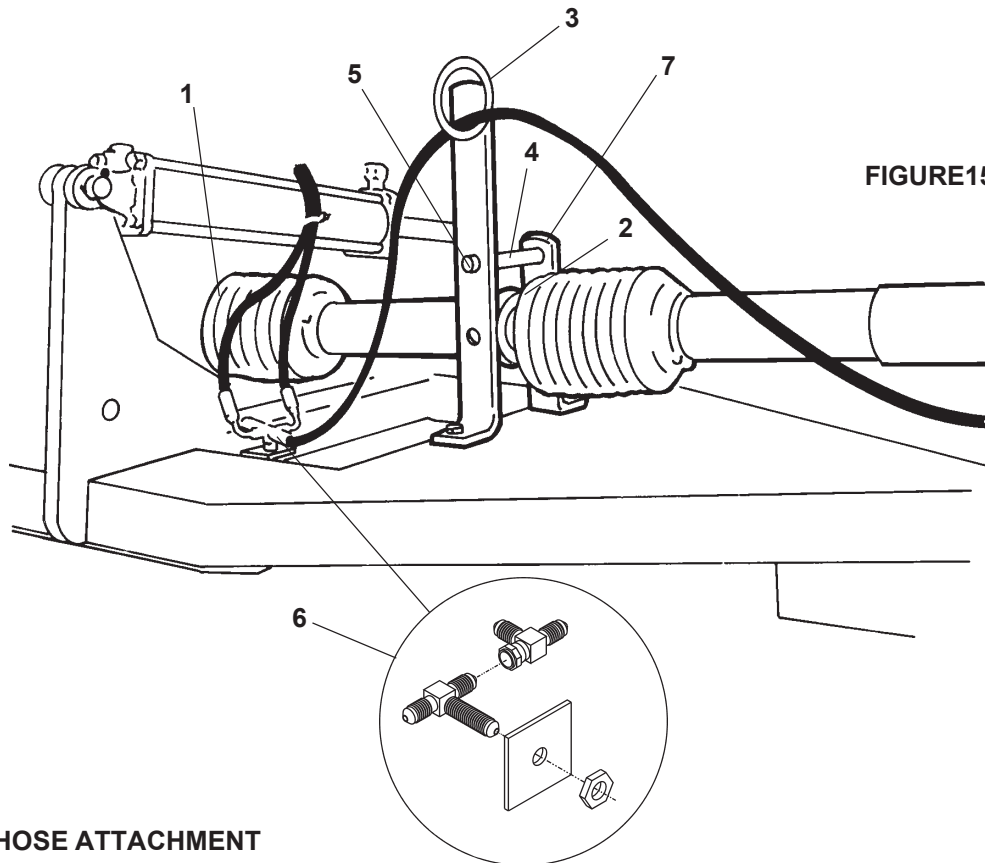

FIGURE15
Install the Jackshaft (1) on the Front Gearbox and install Bearing (2) on the Drive End. Sandwich the Bearing between the Bearing Supports(3) & (7). Install the Pipe Spacers (4) and retain with 1/2" x 7" bolt (5) and locknut. **Figure 15**